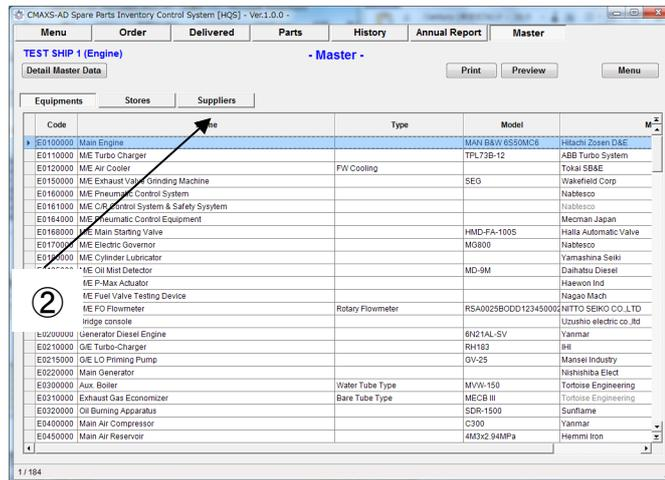

Fig.15-2 Master [Equipments] Screen
(2) “Master [Equipments] Screen”(Fig.15-2) is displayed.